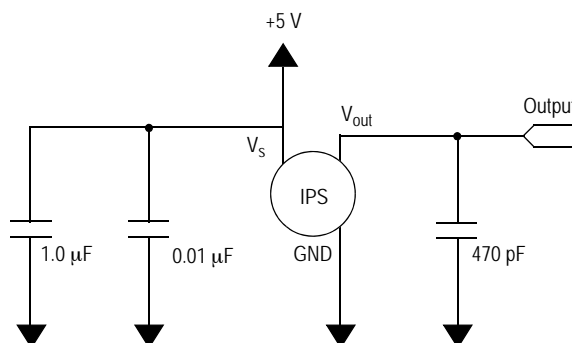

Figure 3. Recommended Power Supply Decoupling and Output Filtering (For output filtering recommendations, refer to Application Note AN1646.)
**Table 1. Operating Characteristics** ( $V_S = 5.1$  Vdc,  $T_A = 25^\circ\text{C}$  unless otherwise noted,  $P1 > P2$ . Decoupling circuit shown in Figure 3 required to meet electrical specifications.)
Figure 3 shows the recommended decoupling circuit for interfacing the output of the integrated sensor to the A/D input of a microprocessor or microcontroller. Proper decoupling of the power supply is recommended.
Figure 4 shows the sensor output signal relative to pressure input. Typical, minimum, and maximum output curves are shown for operation over a temperature range of 0° to 85°C using the decoupling circuit shown in Figure 3. (The output will saturate outside of the specified pressure range.)